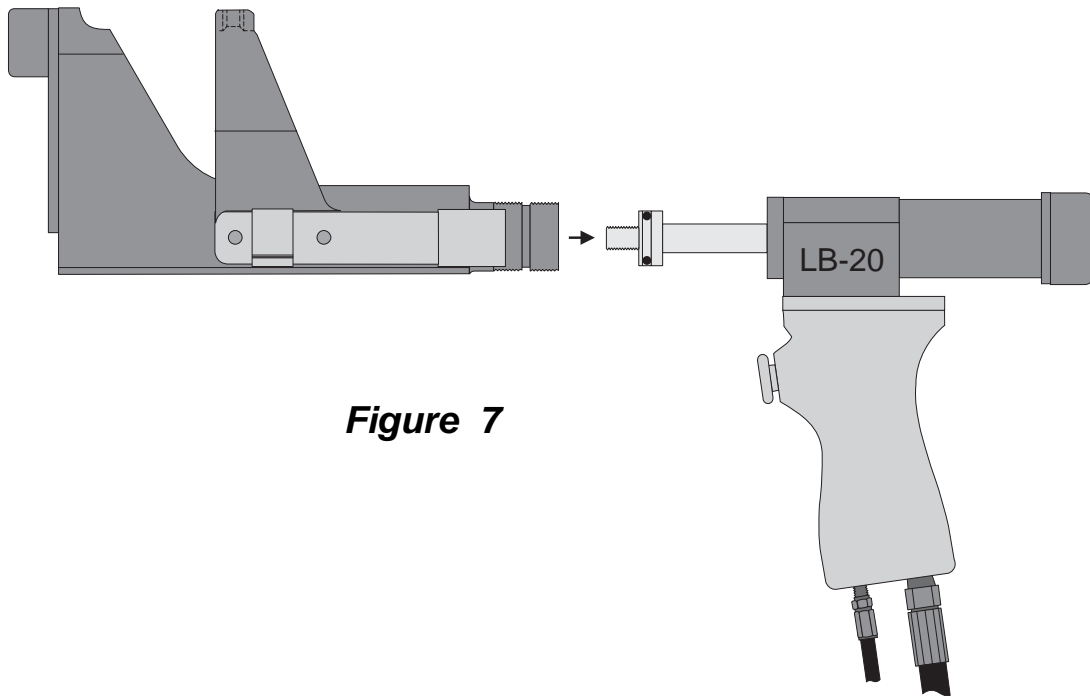

Figure 7
8. Screw LBOA onto LB (Figure 7). Connect piston first then connect housing. Tighten lock ring.